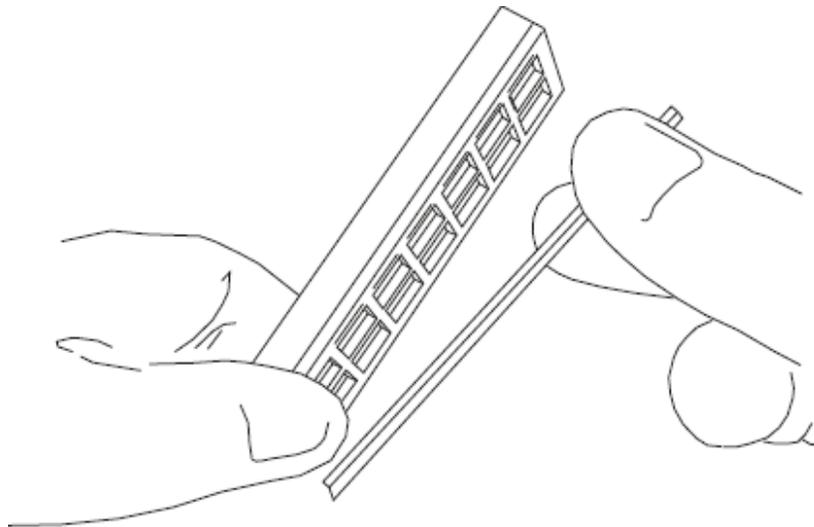

Figure 11
11. Remove the arrayed slide for analysis in a chip reader as shown in Figure 11.